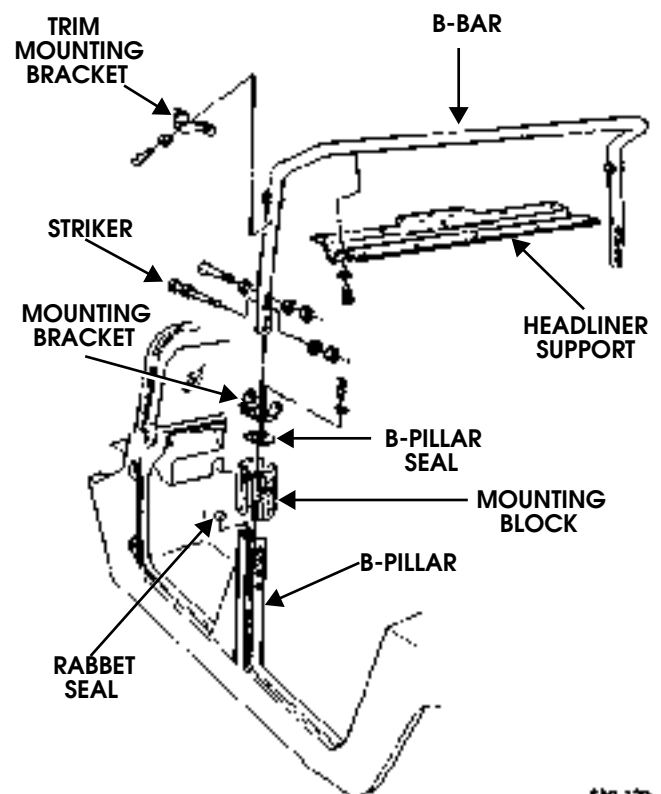

Figure 10-36: B-Bar Mounting
4. Remove screws, washers, and headliner support from B-bar (Figure 10-36).
1. Secure trim mounting brackets to B-bar with four washers and screws (Figure 10-36).